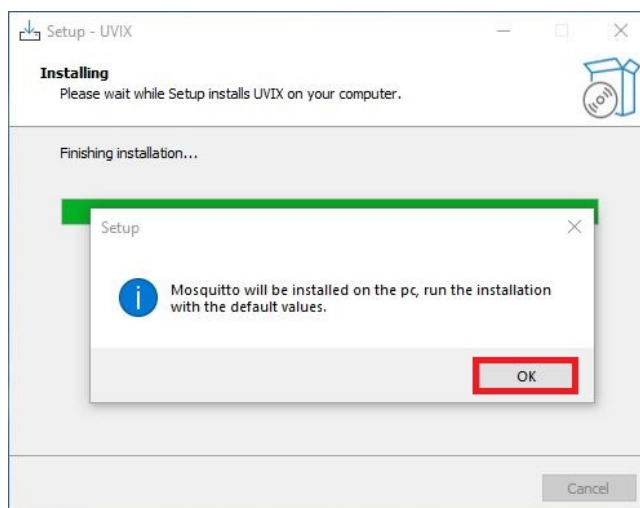

Figure 4.25: Fast Mode Installation
15. Click "OK" to confirm the installation of Fast Mode, as shown in figure 4.25.